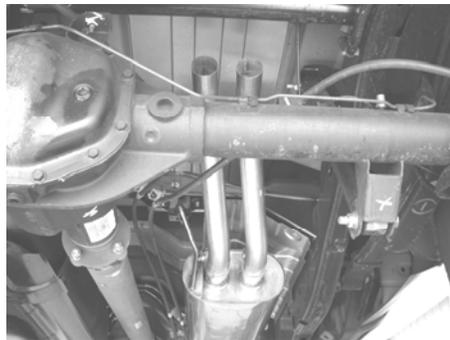

**Figure 8**
2. Using the original hardware and gasket, place a clamp over the expanded end of the right front pipe assembly and set it into position as shown in figure 8. Hand-tighten the hardware for now. Using the vehicle manufacturer's recommendations, secure the rubber bracket to the frame of the vehicle using the original hardware.